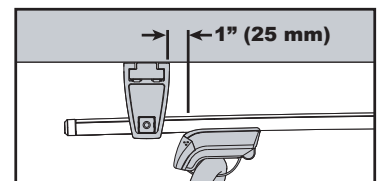

fig. 2
- Do not position the mounting hardware more than 1" (25 mm) outside of the Tower (see figure 2).